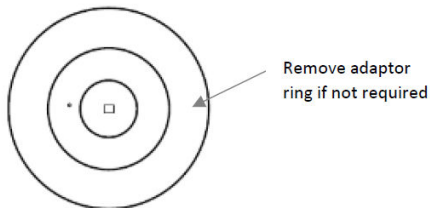

Fig. 2
- This fitting will suit 70mm – 130mm cut-outs when using the adaptor ring (see Fig. 2)